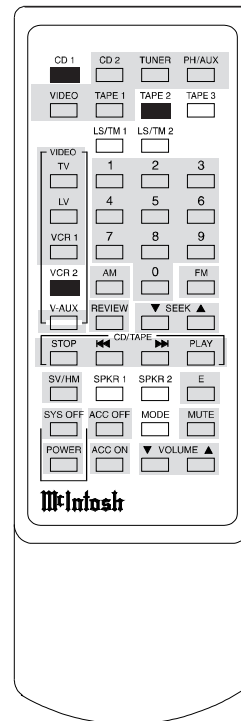

Figure 3
*Note: Operations in remote zones can be performed by pressing a push-button on a keypad or remote control. Refer to figures 3 and 4*